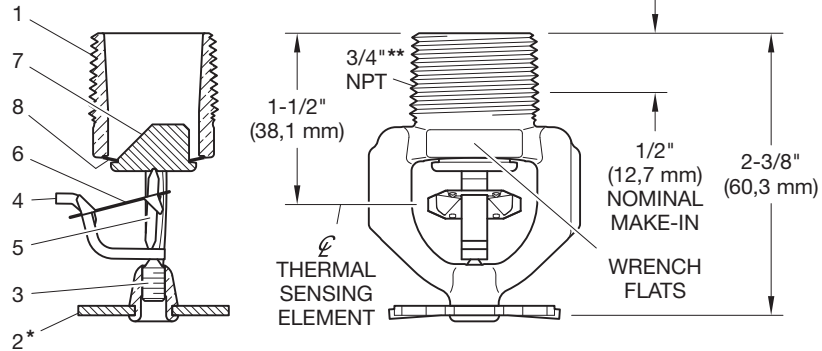

FIGURE 1
TYCO Model ESFR-17 Pendent Sprinklers are Early Suppression, Fast Response (ESFR) sprinklers having a nominal K-factor of 16.8 (Ref. Figures 1 and 2). They are suppression mode sprinklers that are especially advantageous as a means of eliminating in-rack sprinklers when protecting high-piled storage.
Step 2. Wrench-tighten the Model ESFR-17 Sprinkler using only the W-Type 2 Sprinkler Wrench (Ref. Figure 3), and by fully engaging (seating) the wrench on the sprinkler wrench flats (Ref. Figures 1 and 2).
Step 3. After installation, inspect the Link Assembly of each Model ESFR-17 Sprinkler for damage. In particular, verify that the Link Assembly and Hook are positioned as illustrated in Figures 1 and 2, and that the Link Assembly is not bent, creased, or forced out of normal position in any way. Replace damaged sprinklers.